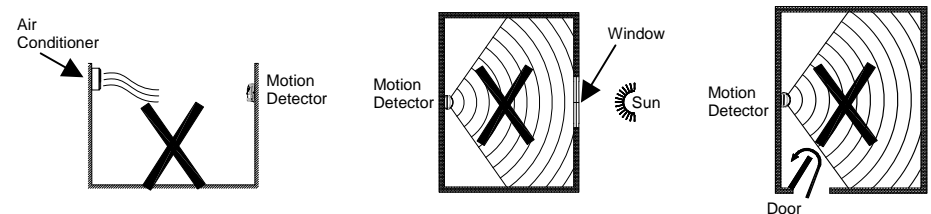

FIGURE 1
1. Do not locate the detector facing a window/fan/air-conditioner or direct sunlight. Motion Detectors are not suitable for use in conservatories or draughty areas. (FIGURE 1)